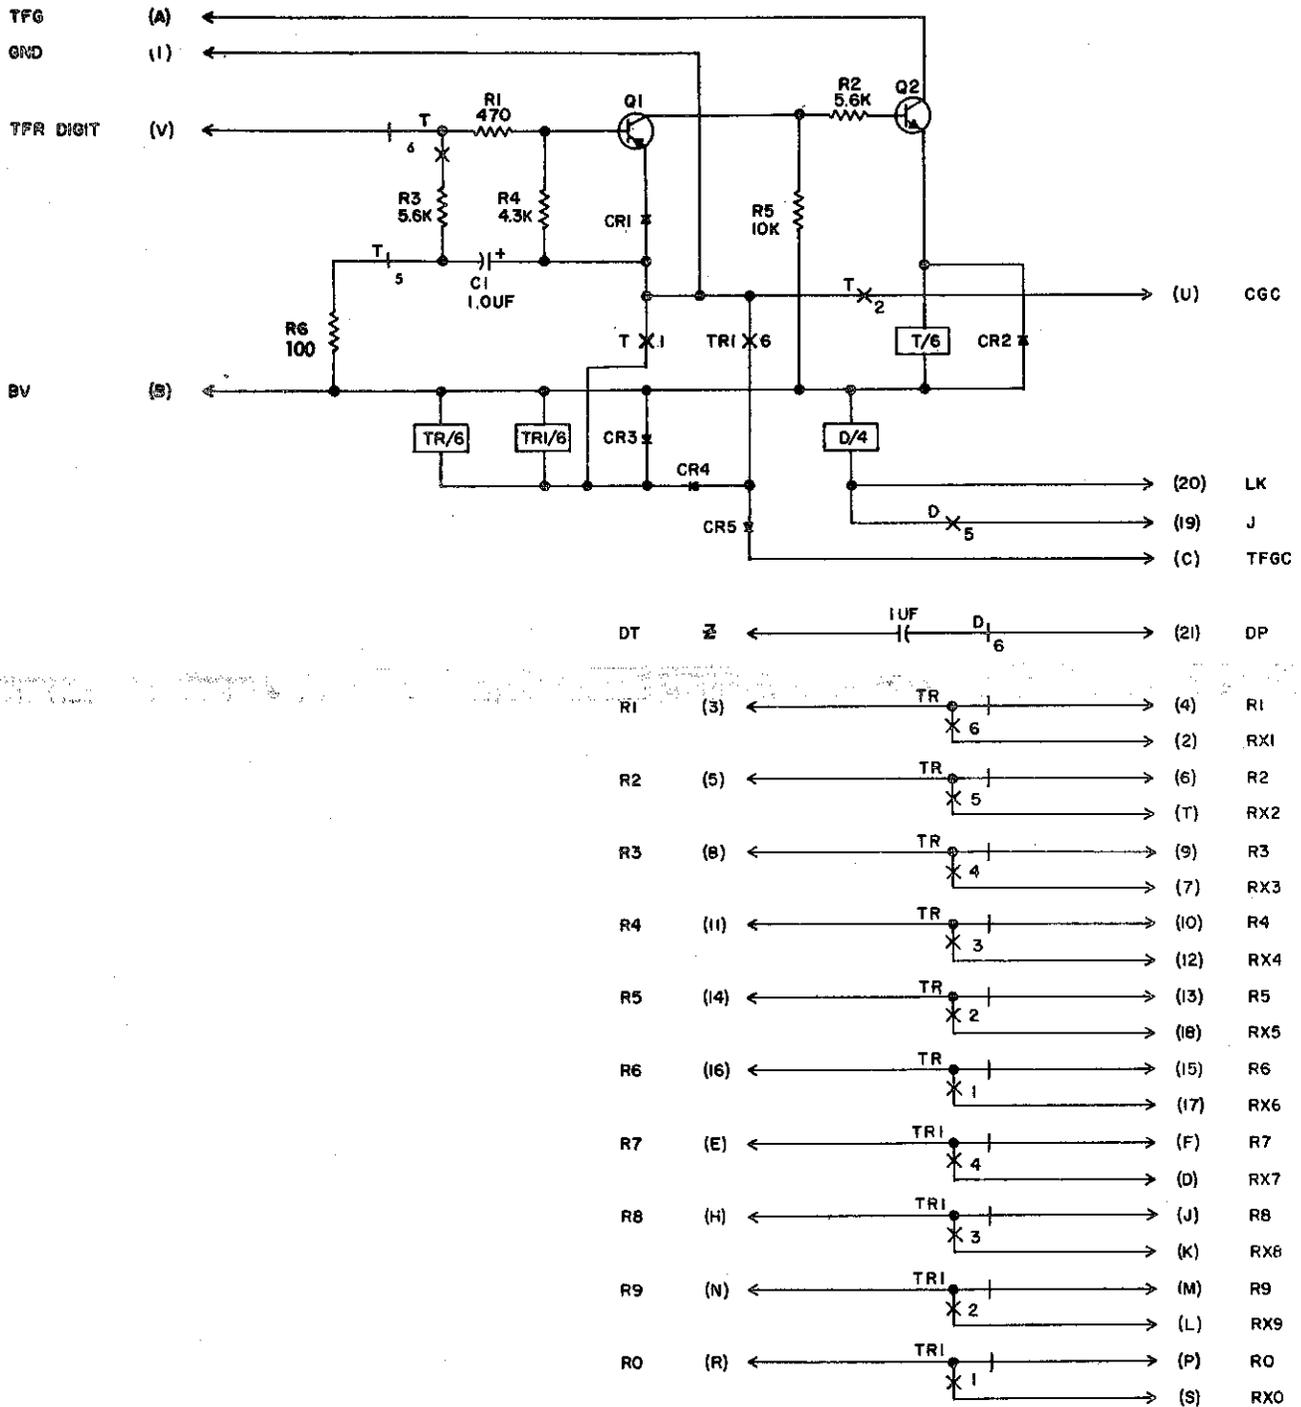

Fig. 7 - Circuit Diagram, K160B KTU
**2.07** K160B, Dial Intercom KTU. One KTU is used for each additional nine dial codes. K160B KTUs are not furnished with the basic K357A unit but can be purchased separately to expand to 18, 27, or 36 intercom stations as required. See fig. 7.